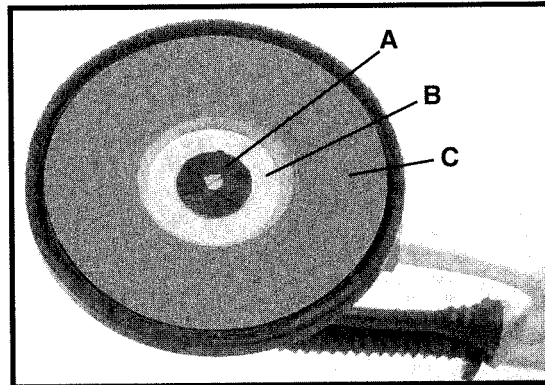
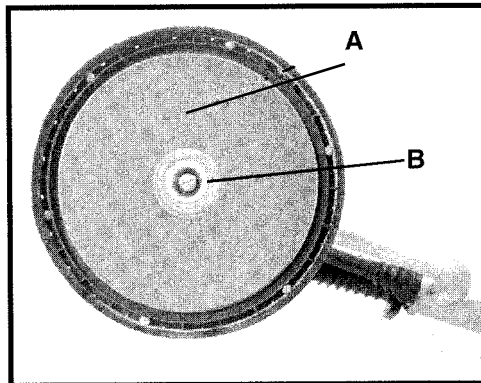

Fig. 9
Fig. 10
2. Rotate the pad retaining nut (A) Fig. 9 counterclockwise and remove.
3. Lift off the large metal washer (B) Fig. 9, and the abrasive pad (C) Fig. 9.
**NOTE:** When the abrasive pad (C) Fig. 9 is lifted off the Sander, the abrasive back-up disc (A) Fig. 10 is exposed. Please note that this back-up disc is also covered with an abrasive material., and is used ONLY to prevent “slippage” between the back-up disc and the foam-backed abrasive pad. it is NOT suitable for use as a sanding abrasive.
Position the new abrasive pad to the back-up disc, and center the hole of the disc on the hub (B) Fig. 10 of the back-up disc.
5. Position the large metal washer (B) Fig. 9, and the retaining nut (A) Fig. 9, to the Sander.